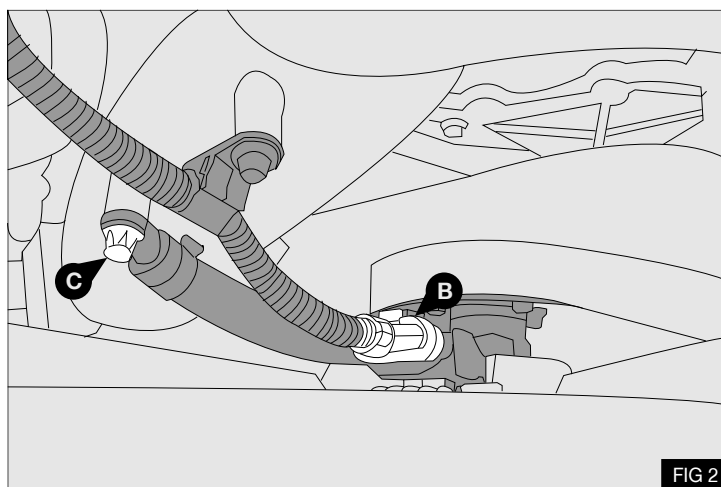

FIG 2
2. Remove the wiring plug (B) from the fan assembly by first releasing the grey clip in the plug housing - Fig 2
3. Remove and retain the M6 - E10 Torx bolt securing the fan assembly retaining tube - Fig.2
6. Refit the wiring plug ⑥ - Fig 2
7. Refit the M6 - E10 Torx bolt securing the fan assembly - Fig.2